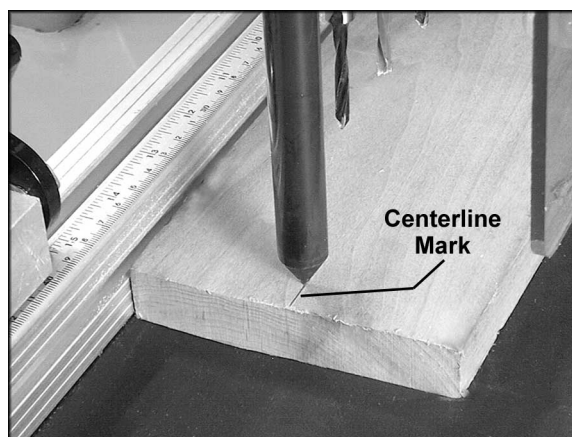

Figure 24
4. Move the table forward or backward to establish the centerline of your holes. This is best accomplished by scribing a mark on the workpiece where centerline is to be located; then placing the workpiece against the fence and adjusting the table until the indexing pin touches your mark. See Figure 24.